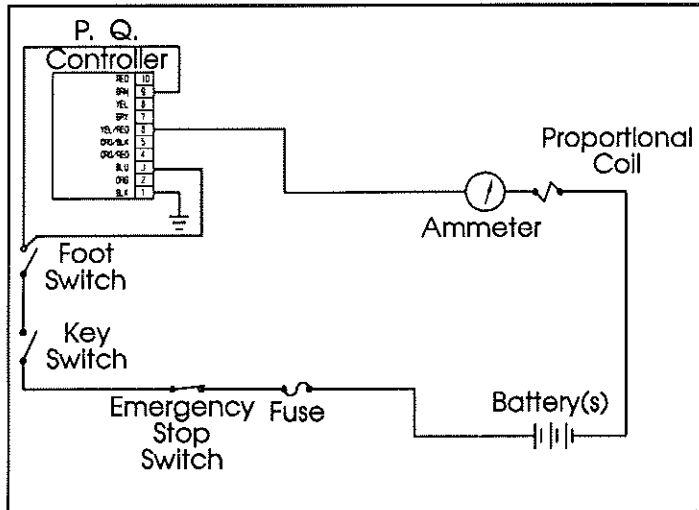

Figure 4-8: Proportional Control Circuit
4.6 Switch Adjustments**PROPORTIONAL CONTROL ADJUSTMENT (Figure 4-8)**